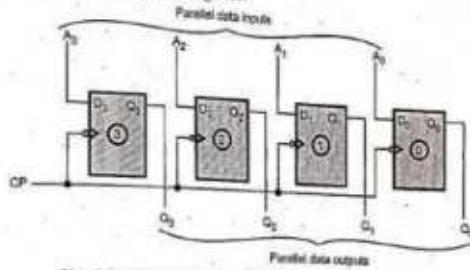

Fig. 5.8.12 Parallel In Parallel Out (PIPO) shift register
- Fig. 5.8.12 shows this type of register.